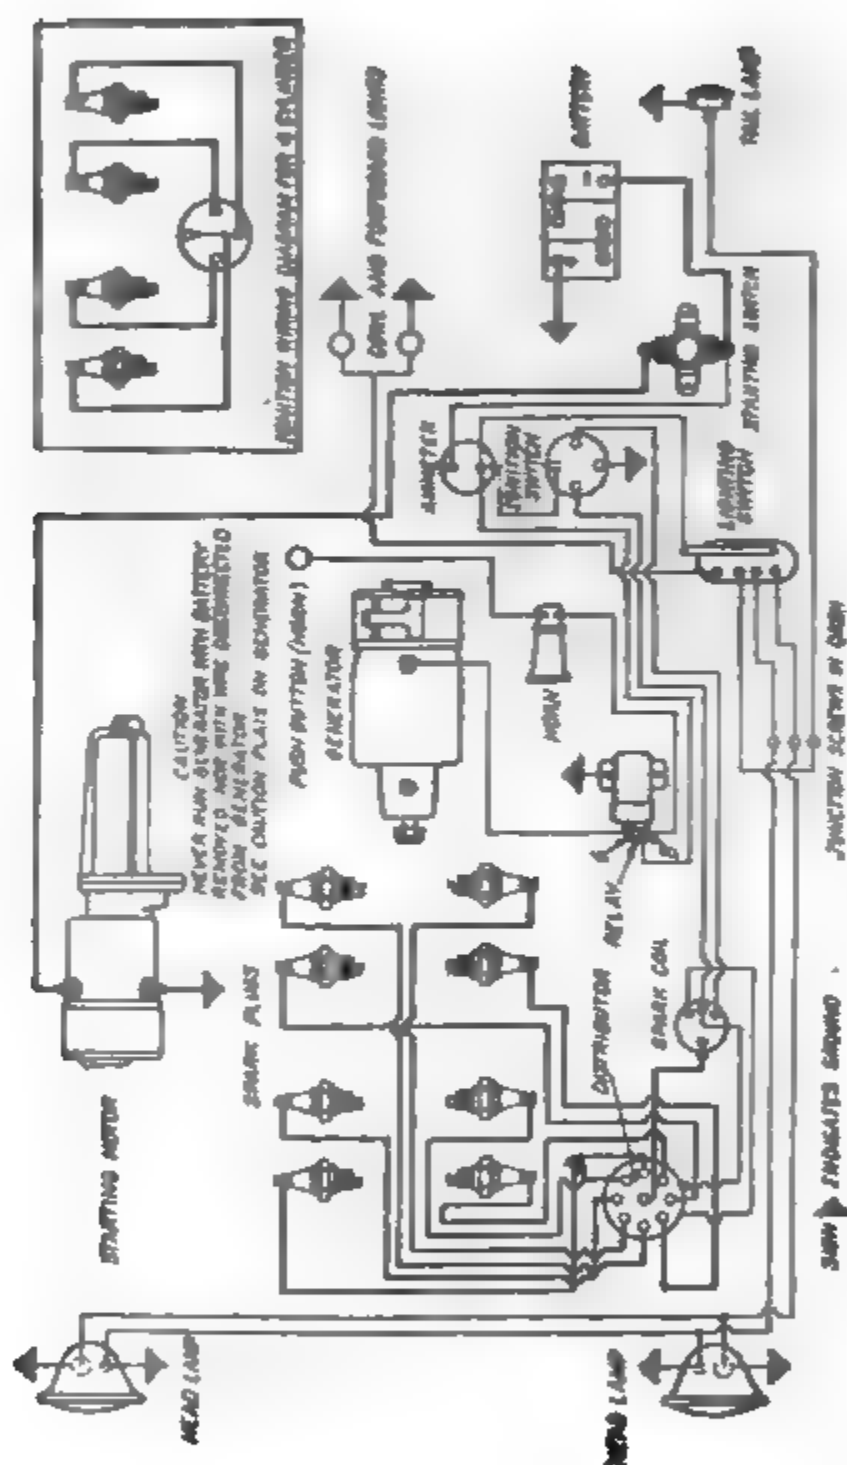

Fig. 365. Wagner Two-Unit System for Nippee-Booth Four- and Eight-Cylinder Models
**Battery Cut-Out.** The type of automatic cut-out used with the type of generator employing the third-brush method of regulation is illustrated in Fig. 364. This may or may not be combined with a starting switch mounted on the engine side of the dash or some similar location. Fig. 365 is a wiring diagram showing the connections of the separately mounted cut-out with the third-brush generator. The cutting-in speed varies from five to ten miles per hour on high gear, varying with the gear ratio and wheel diameter of the car. This speed may be determined by running the car slowly and speeding up very gradually, meanwhile observing the increase in  $\frac{1}{2}$  on the speedometer. The point at which the contacts close